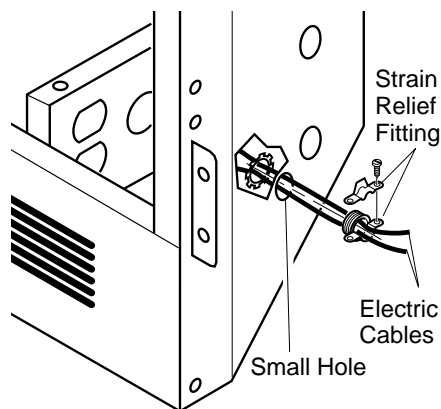

Figure 23 - Installing Strain Relief Fitting into Electrical Access Hole
7. Clamp electrical cable hard-wiring into firebox through smallest hole using strain relief fitting provided (see Figure 23).